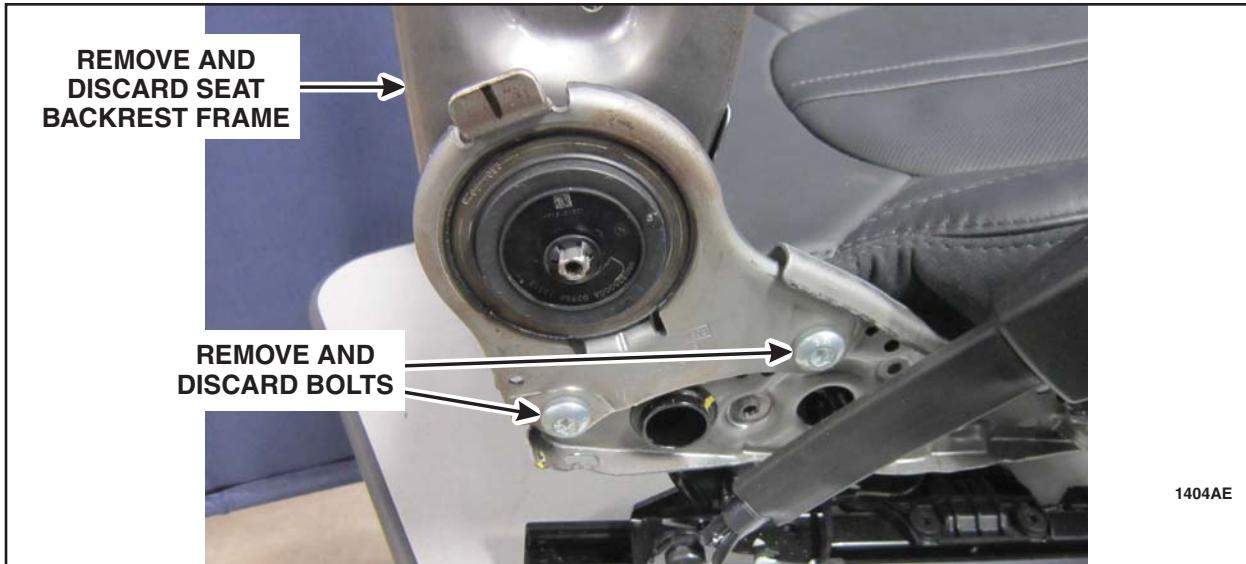

FIGURE 17
19. Remove the four torx bolts and the seat backrest frame. Discard the bolts and the frame. See Figure 17.